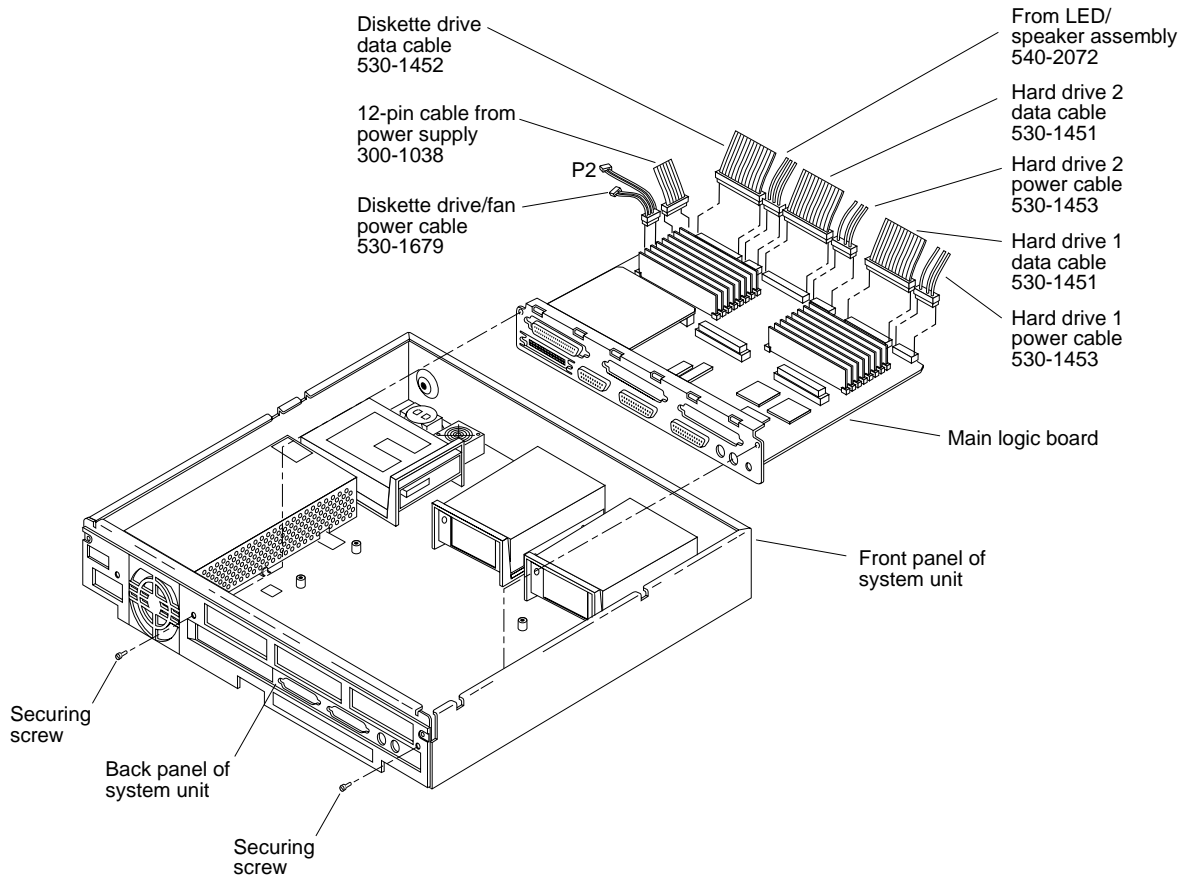

Figure 4-26 Removing and Replacing the Main Logic Board
- 16. Remove the two Phillips head screws that secure the board to the back panel (see Figure 4-26).**
- 1. Insert the connectors on the rear of the replacement board into the back panel as shown in Figure 4-26.**
- 3. Install two Phillips head screws to secure the main logic board to the rear of the chassis (see Figure 4-26).**
- 6. Connect the 34-line diskette drive data and power cables to the connectors on the main logic board (see Figure 4-26).**